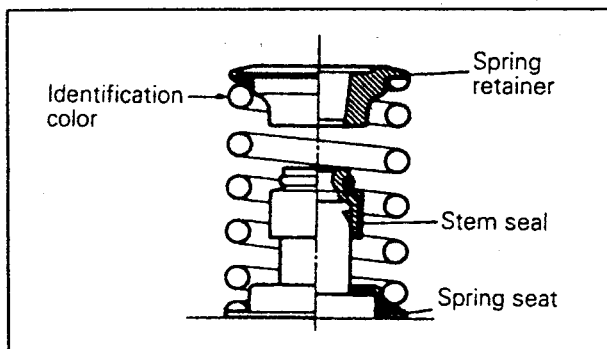

Fig. 1.29b. — Correct assembly of valves, valve springs, etc.
- Fit the valve springs (correct side up), place the upper spring retainer (cup) over the valve. Fig. 1.29b should be studied so that the fitted spring/valve assemblies can be compared. Using a valve compressor, as shown in Fig. 1.29 compress the valves springs until the two valve cotter halves can be inserted into the groove of the valve stem. Remove the valve compressor and check that the cotters have engaged in their groove by tapping the ends of the valve stems slightly with a hammer. Place a rag over each valve stem end to prevent the cotter halves from flying out.